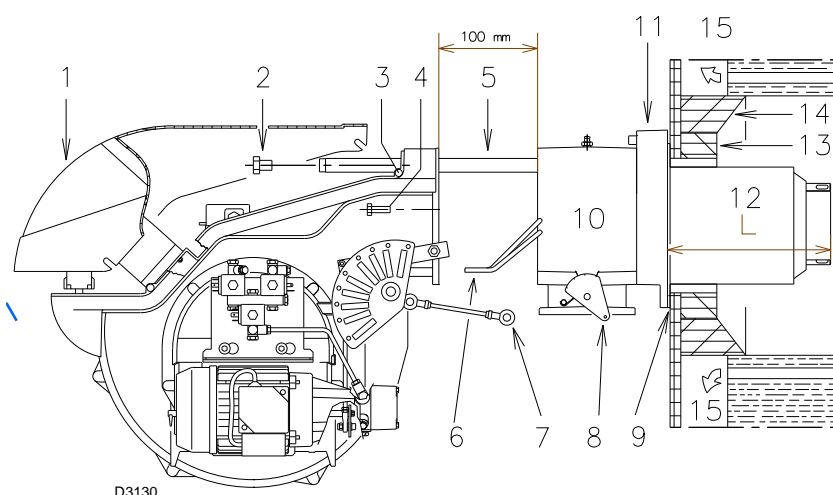
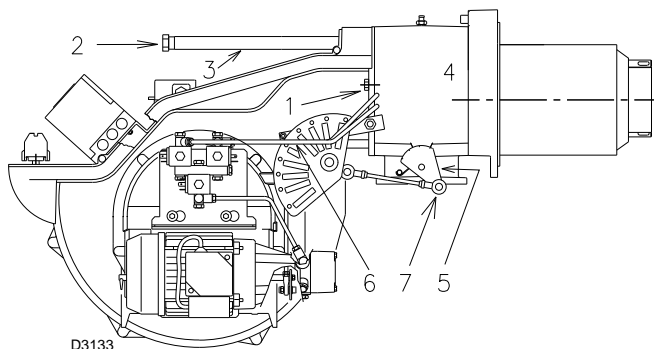

Fig. 10
Fig. 15
For boilers with front flue passes 15)(Fig. 10) or flame inversion chambers, protective fettling in refractory material 13) must be inserted between the boiler fettling 14) and the blast tube 12).
For boilers having a water-cooled front the refractory fettling 13)-14)(Fig. 10) is not required unless it is expressly requested by the boiler manufacturer.
- disconnect the hoses by unscrewing the two connectors 6)(Fig. 10).
- Refit the burner to the slide bars 3)(Fig. 15) at approximately 100 mm from the sleeve 4) - burner positioned as shown in Fig. 10 at page 16.
- Insert the ignition electrode cables and then slide the burner up to the sleeve so that it is positioned as shown in Fig. 15.
- Connect the oil pipes again by screwing on the two connectors 6)(Fig. 10 at page 16).